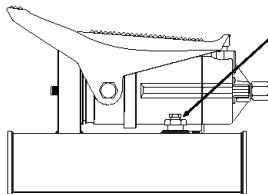
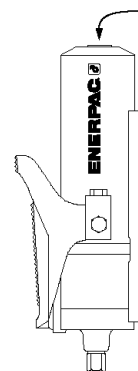

Figure 2
Figure 1
1. Hold pump on end as shown in Figure 1 and remove fill plug. On PA-1150 models, the fill plug is located on the side of the pump as shown in Figure 2.